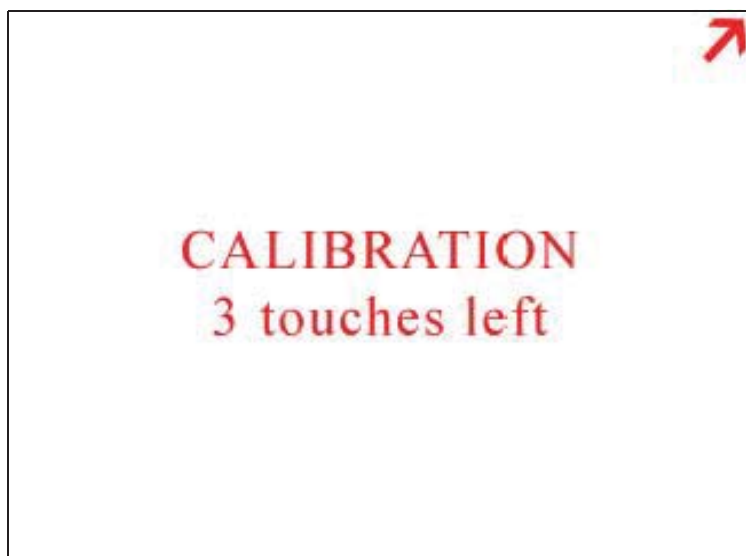

Figure 6-43 Alignment Screen 2
- At the next screen, touch the arrow displayed in the upper right corner. This needs to be done a total of three times before continuing to the next alignment. See Figure 6-43.